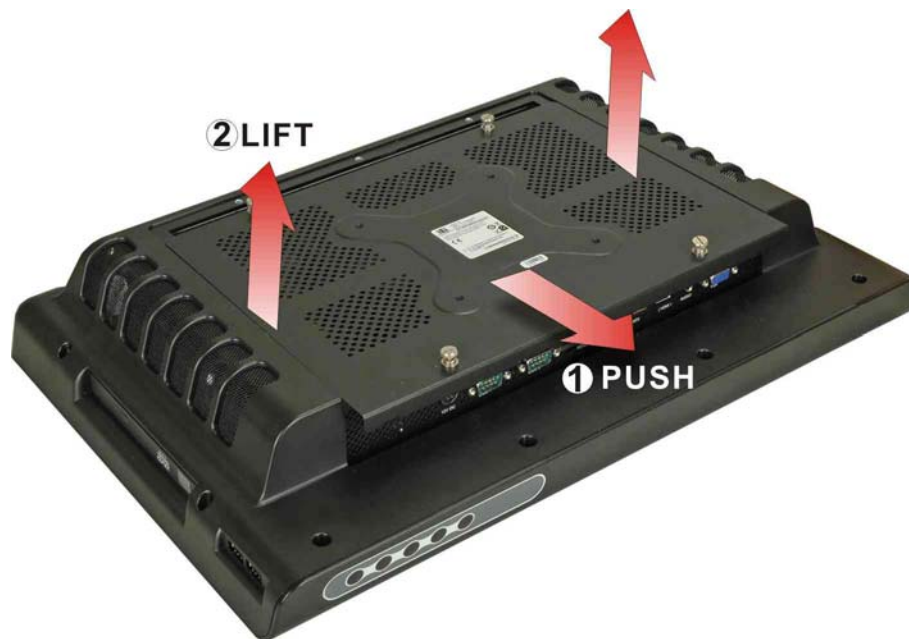

Figure 2-1: Aluminum Back Cover Retention Screws
**Step 2:** Unfasten the four silver retention screws. The screws will not separate from the cover - just loosen as much as possible (Figure 2-1).